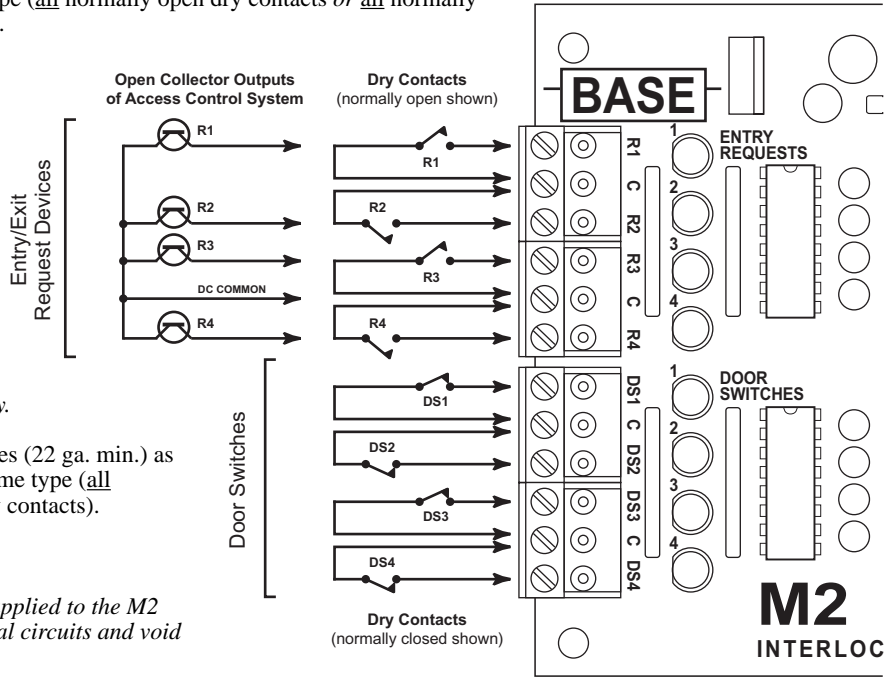

Figure 1 - M2 Input Wiring
3. Entry/Exit Request Devices Connect wiring from Entry/Exit Devices (22 ga. min.) as shown in Figure 1. All Entry/Exit devices must be the same type (all normally open dry contacts *or* all normally closed dry contacts *or* all open collector sink outputs).
4. Door Switches Connect wiring from Door Switches (22 ga. min.) as shown in Figure 1. All Door Switches must be the same type (all normally open dry contacts *or* all normally closed dry contacts).